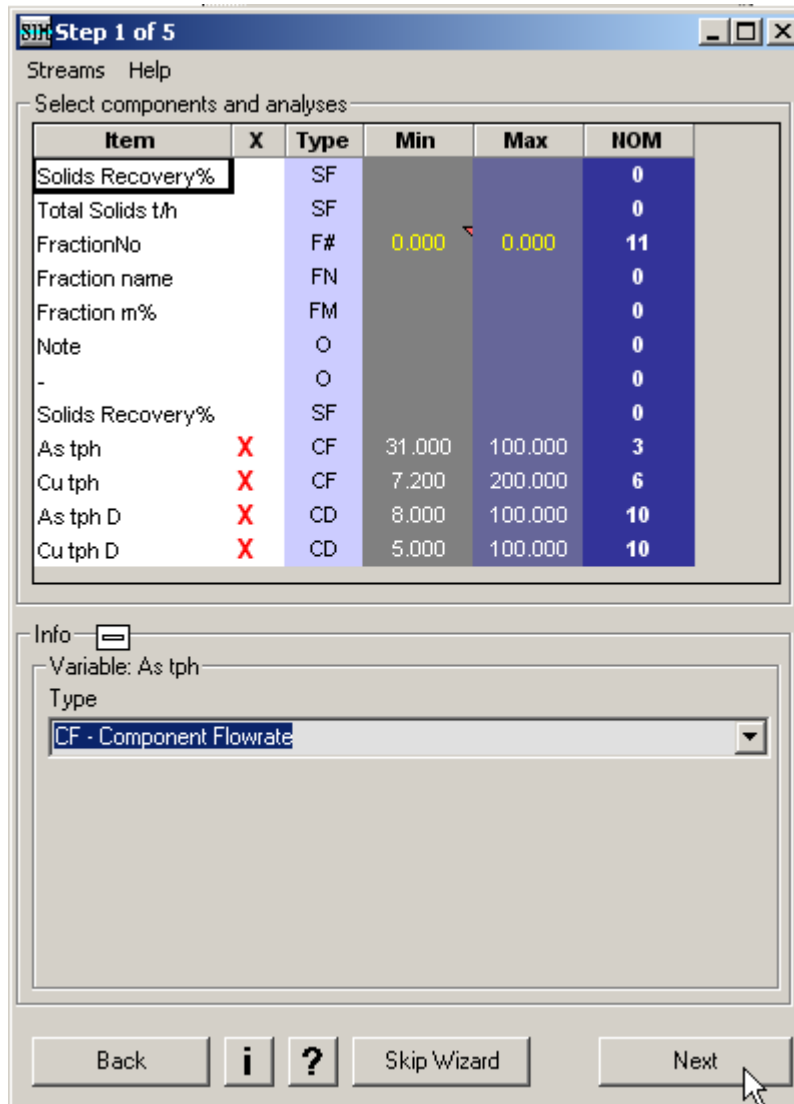

Figure 11. The Mass Balance wizard, step 1.
2. Check that As and Cu flowrates are identified correctly as “CD – Component Flowrates” and As and Cu distributions as “CD – Component Distribution” (Figure 11). Press Next.